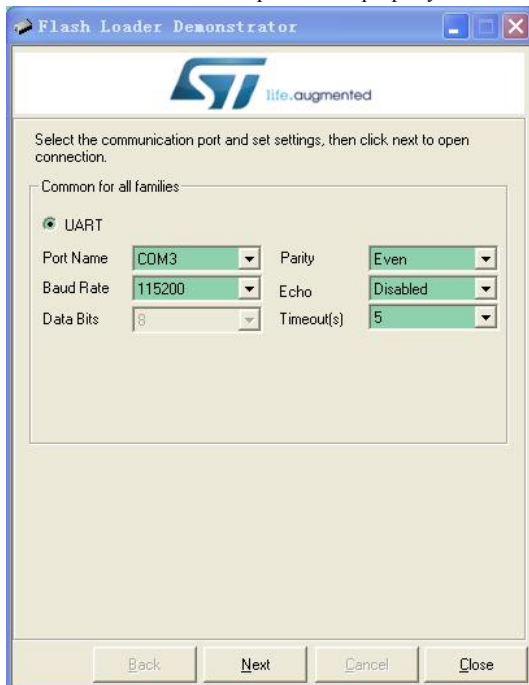

Fig. 5
- 3) Launch Flash Bootloader Demonstrator and proceed to the state as shown in Fig. 5. Here you need to setup some parameters for the serial connection. Please set the parameters to what illustrated in Fig. 5. For Port Name you need to choose the one corresponding to DSO138.